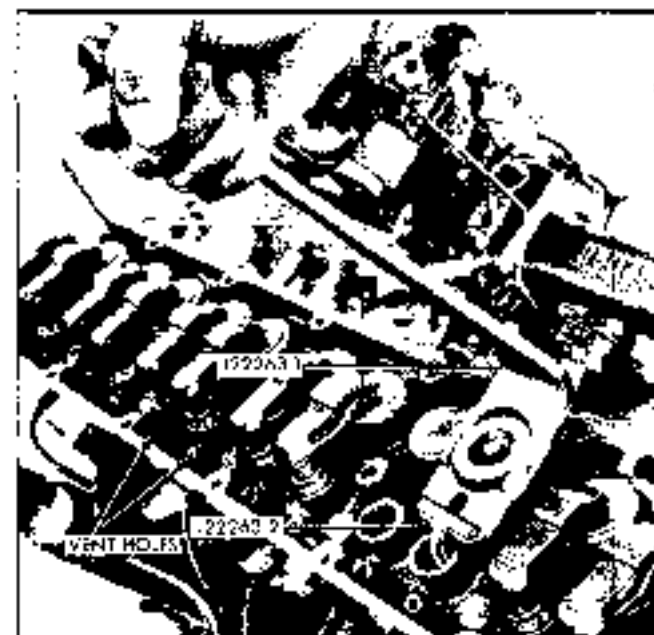

Fig. 6-24 Valve Spring Removal
6. Hold J 22263-2 in place and install fork end of compressor J 22263-1 on J 22263-2 (Fig. 6-24).